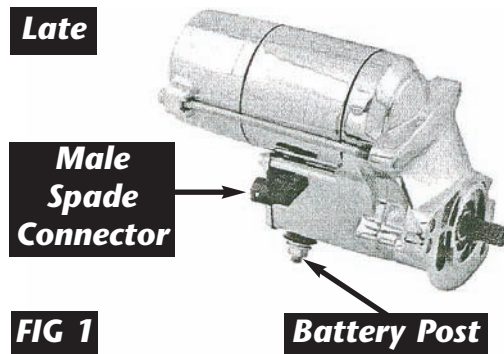

FIG 1
3. Connect the larger of the two clips to the battery post on the starter for 1989 to present models. Connect the small alligator clip to the male spade connector. (trigger) **See Fig. 1.**